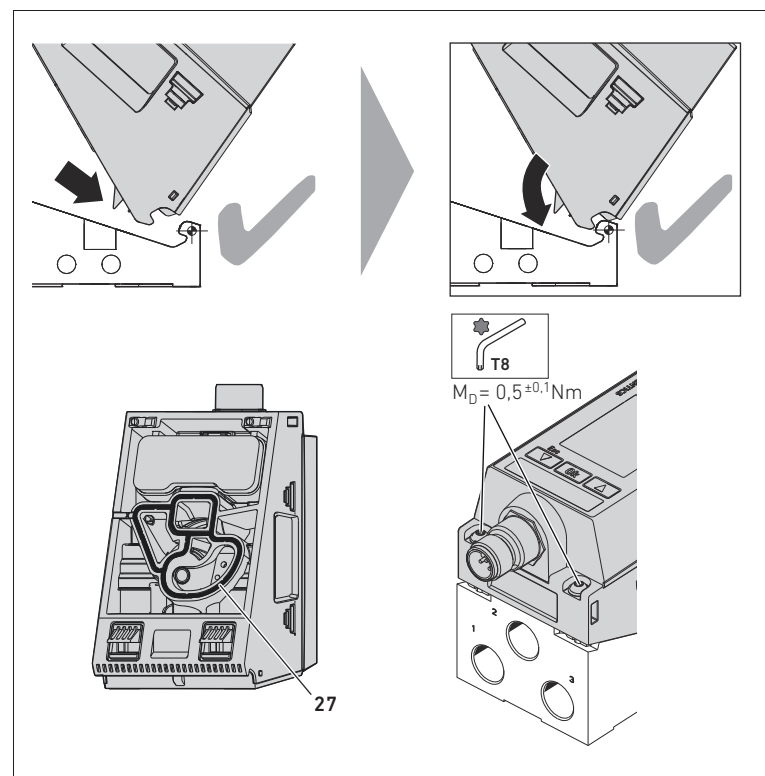

Fig. 9: Assembling the EV03 pressure regulator on a base plate
1. Place the EV03 onto the rotational axis \blacklozenge at an angle (see Fig. 9).
2. Fold down the EV03 so that it rests on the EV03 base plate. Make sure the seal (27) is installed correctly in the pressure regulator.